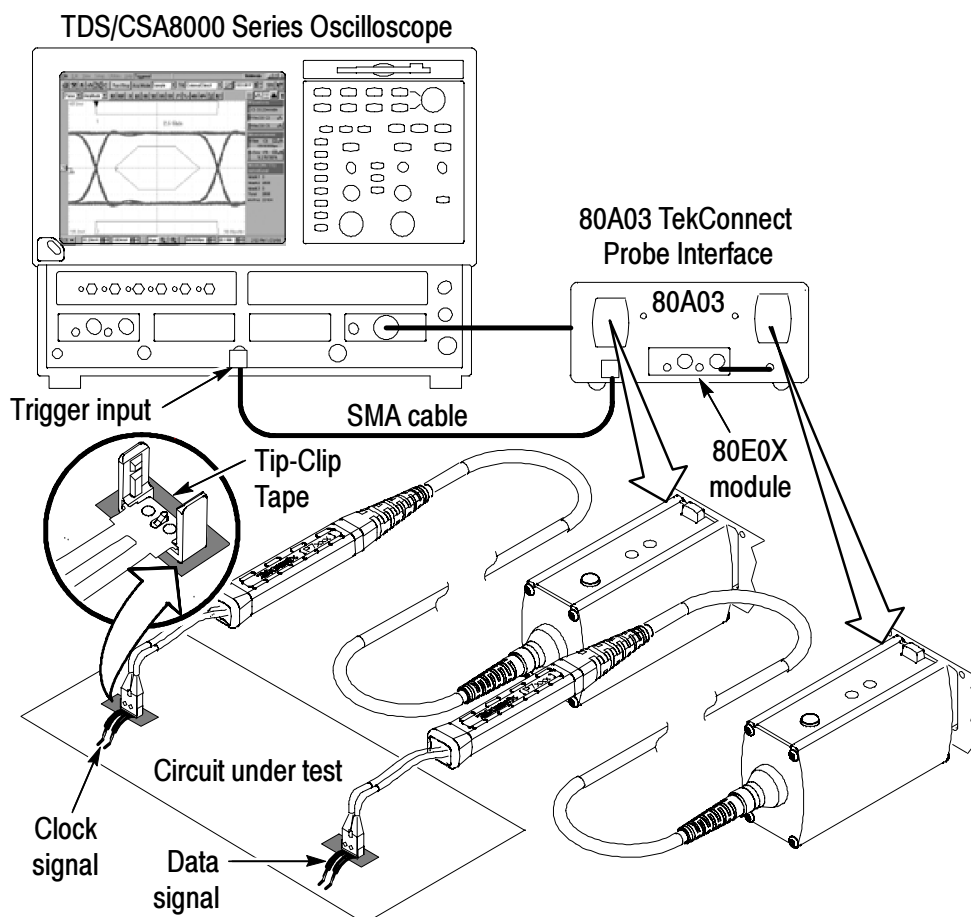

Figure 20: TDS8000 sampling oscilloscope
- Connect one channel of the 80A03 to probe a clock that is source synchronous to the signal to be measured, to provide a trigger signal. See Figure 20.